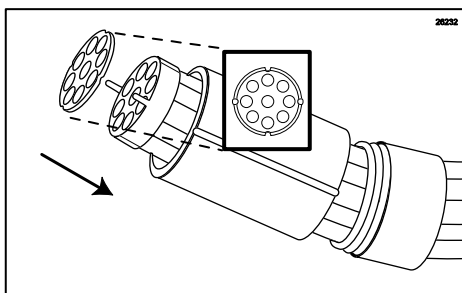

Figure 121
2. Align the 9-hole gasket with the coupler pins of the Lead and place the 9-hole gasket on the coupler. (See Figure 121.)